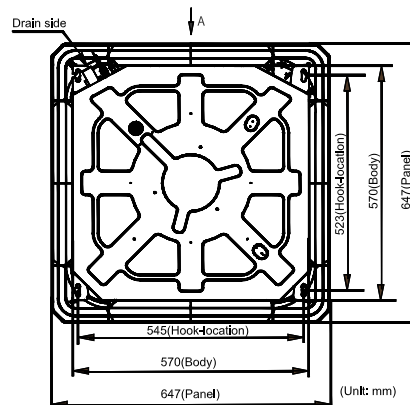

Fig.15
- Please cut a quadrangular hole of 600×600mm in the ceiling according to the shape of the installation paper board. (Refer to Fig.15 & 16)